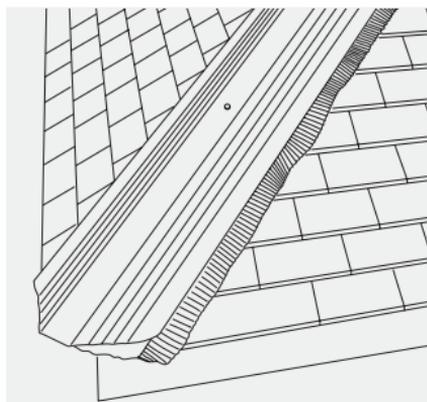

Fig. 60 – HipFast support tray cut at eaves
- In all applications it is recommended that Hipfast support trays (34002) be used. These are designed to ensure the correct support and alignment of hip tiles. Cut a HipFast Hip Support Tray to suit angle and overhang of tiles at eaves (Fig. 60).